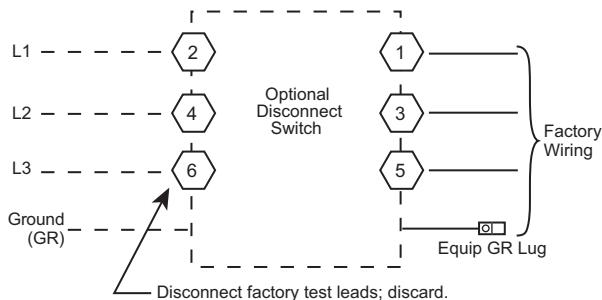

Fig. 34 — Power Wiring Connections
Size wire based on MCA (Minimum Circuit Amps) on the unit informative plate. See Fig. 34 and the unit label diagram for power wiring connections to the unit power terminal blocks and equipment ground. Refer to Table 7 for maximum wire size at connection lugs.
The factory-installed option non-fused disconnect switch (NFD) or HACR circuit breaker is located in a weatherproof enclosure located under the main control box. The manual switch handle is shipped in the disconnect or HACR circuit breaker enclosure. Assemble the shaft and handle to the switch or HACR circuit breaker at this point. Discard the factory test leads (see Fig. 34). The factory disconnect is either an 80A or 100A depending on the unit voltage, indoor motor and options.
2. Install power lines to terminal connections as shown in Fig. 34.